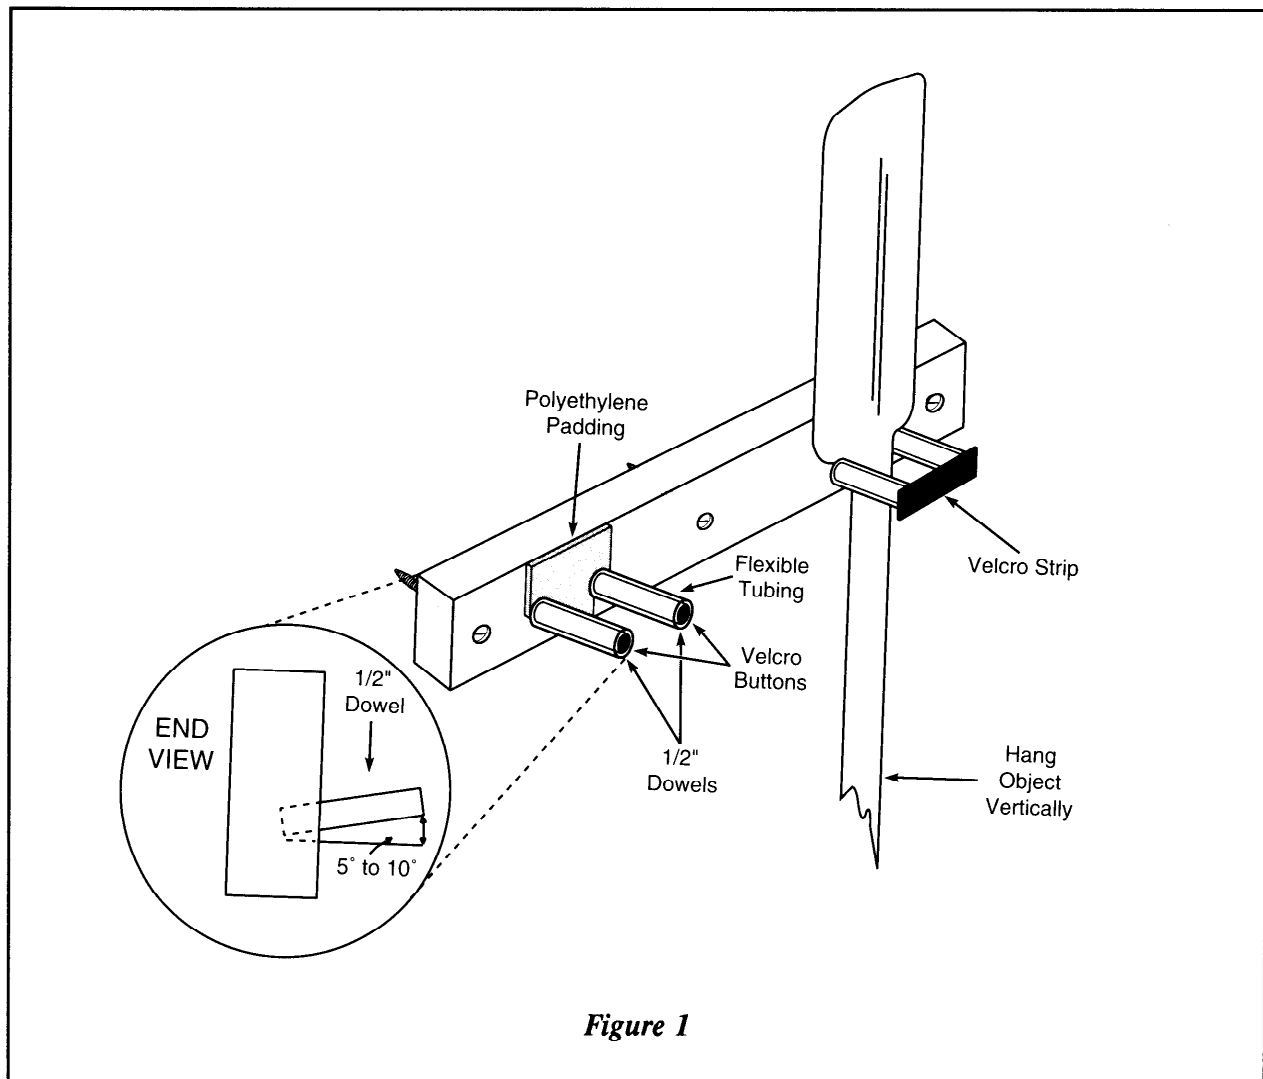

Figure 1
3. Drill two 1/2"-diameter holes 1" deep into the 2" x 4" board at an angle of 5 to 10 degrees (as shown in the end view of Figure 1) and far enough apart so the paddle's blade or widest part of the object will fit comfortably between the two plastic-covered dowels. Cut the dowels into two equal lengths (usually 3" - 6") and set them into the holes using wood or carpenter's glue. If pairs of objects are to be stored together, cut the dowels long enough to support both objects (when weight permits). When placing the dowels in the board, allow sufficient clearance between each pair to prevent the hanging objects from touching each other (5" - 7" between objects normally is enough).